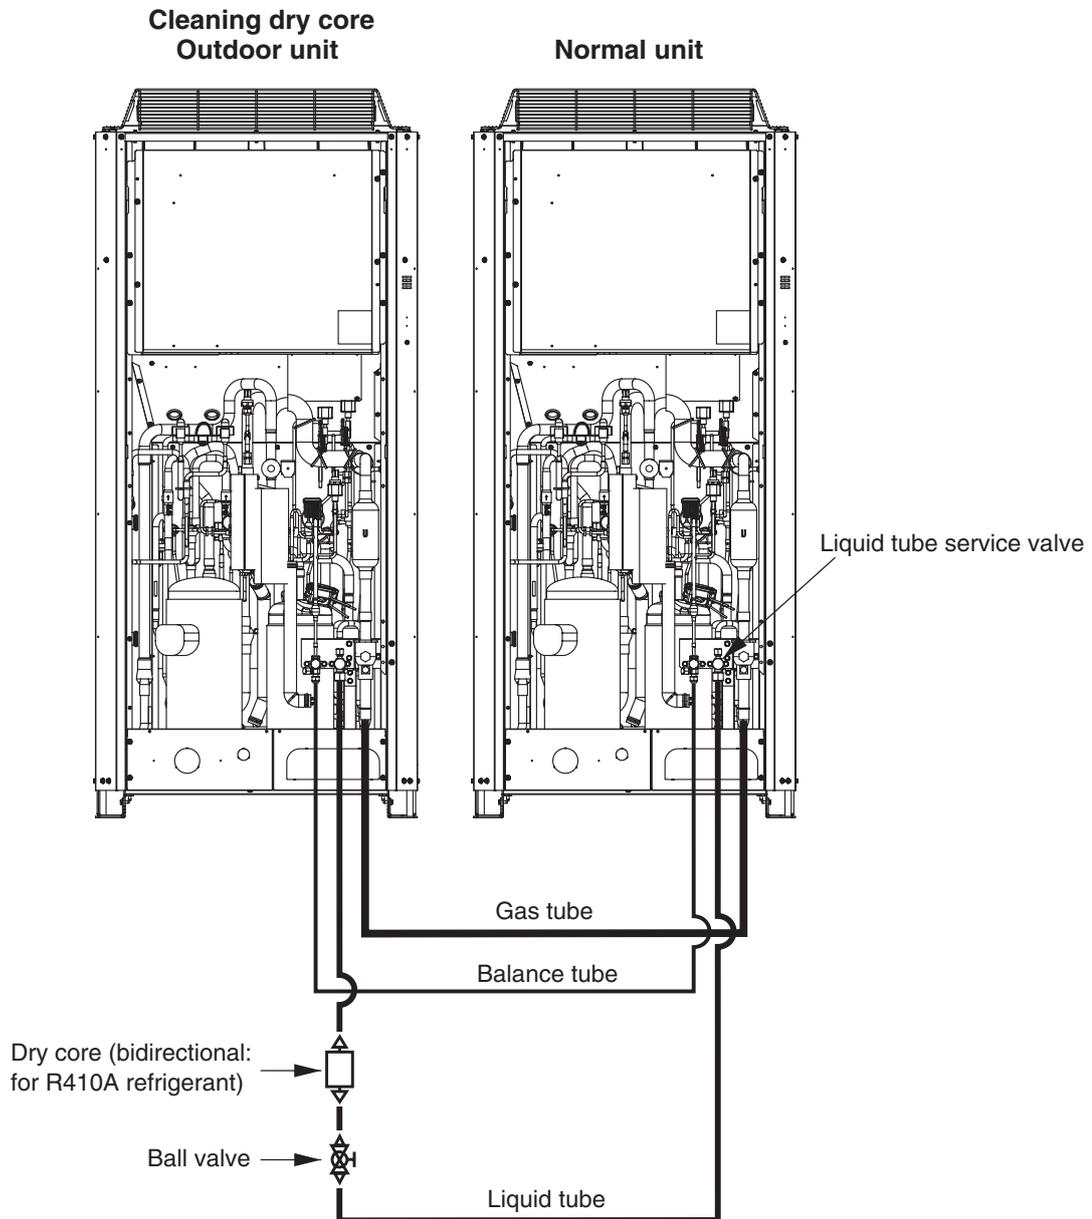

Fig. 15
- (5) As shown in Fig. 15, disconnect the tube that runs from the liquid tube valve to the ball valve on all outdoor units where dry cores will be attached. Then attach the dry cores.
- (6) At all outdoor units where dry cores are attached, pressurize with 3.8 MPa of nitrogen from the liquid tube service port and check for leaks.
- (7) After evacuating all nitrogen gas from the tubing, apply vacuum from the liquid tube service port to all outdoor units where dry cores are attached until the pressure is -101kPa (-755 mm Hg , 5 Torr) or less.
- (8) Fully open the liquid tube valve and ball valve on all outdoor units where dry cores are attached.
- (9) Operate all outdoor units for approximately 3 hours (in either Heating or Cooling mode).
- (10) Follow the above procedure, and replace all dry cores with new dry cores.
- (11) Operate all outdoor units for approximately 20 minutes (in either Heating or Cooling mode).
- (12) Follow the instructions in “2. Discharging Compressor Oil” and drain a small amount of the oil from the oil separators of all outdoor units where dry cores are attached. Check the color phase, odor, and other characteristics.
- (13) If the results show that dry core cleaning is still necessary (for example, a color phase of 4.0 or higher)*, return to Step 11 and repeat until the results are normal (including a color phase of 3.5 or less)*.
- (1) Refer to "4-2-3. Refrigerant recovery procedures (2) : Indoor unit with no ball valve equipped." Perform pump down of the refrigerant from all indoor units and inter-unit tubing to the outdoor unit side.
- (2) Cut the liquid (narrow) tube at all outdoor units where dry cores will be attached, then attach the dry cores and ball valves as shown in Fig. 15.
- (3) For the next steps, refer to (6) – (17) in **(A)** on the previous page.